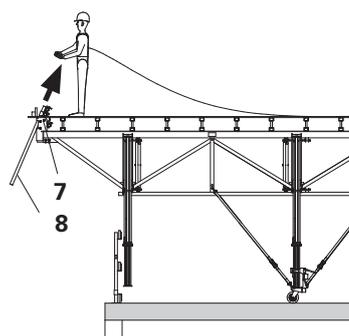

Fig. A6.20
3. From a secure position, lift up the guardrail (8) and lower into in the Crane Eye Adapter STA (7). (Fig. A6.20)